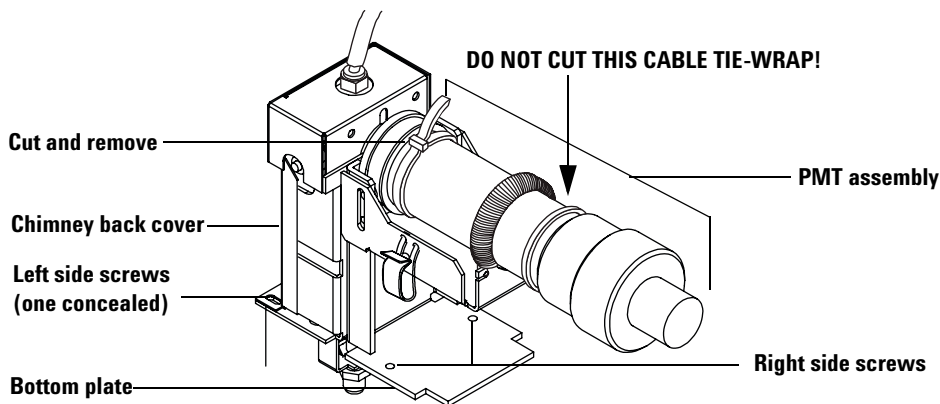

Figure 7 Installing the detector (cables removed for clarity)
- 1 Cut the shipping tie-wrap holding the PMT assembly to the bracket. Be careful not to cut any wires. See Figure 7.
- 3 The detector is held to the oven top by four screws, one at each corner. Insert the two screws on the right but do not tighten them (see Figure 7).